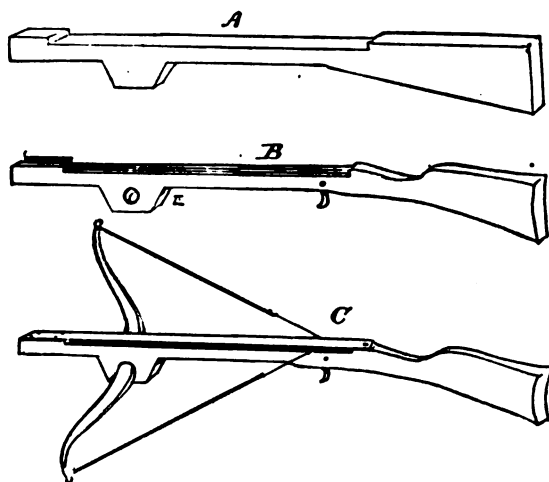
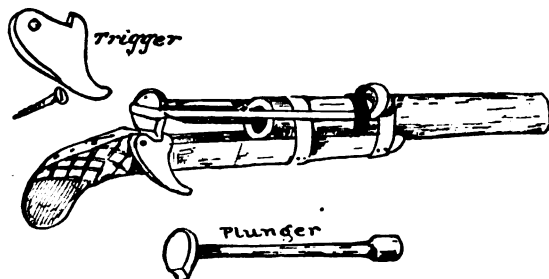

FIG. 129.—The Elastic Cross-Bow.
FIG. 134.—Plunger Pistol.
Select a piece of thick pine or cedar plank and saw out a piece of the form shown by A, Fig. 129. Trim it down with a jack-knife until it becomes more finished and gun-like in appearance. With a gouge, such as may be borrowed at any carpenter or cabinet-maker's shop, cut a half round groove from
the butt to the muzzle of the barrel. The groove must be perfectly straight and true (B, Fig. 129). Bore a hole in the piece (E), for the bow to fit in. The bow in this case should be made perfectly stiff, so as not to bend in the least when the line is drawn and the gun set. The bow may be bent into the proper form by steeping it in boiling water until the wood becomes pliable, and binding it firmly into the required position. After it
versed position, as shown by the diagram C, Fig. 129. It might be an improvement to set the bow back toward the stock an inch or two further than the one in the illustration. For a bow-line use two pieces of strong elastic, with a string for a centre piece. The centre cord prevents the bow-line from wearing out as soon as it would if it were all elastic (Fig. 129, C). Make the trigger in the manner described for the plunger pistol (Fig. 134, page 204), but instead of fastening it upon one side with a screw, set it in a slot cut for the purpose in the middle of the barrel near the stock, and let it move freely upon a pivot.
Cut a thin, smooth piece of pine just long and wide enough to cover the gun-barrel from stock to muzzle, and fasten it on with a couple of small brads at the muzzle and a screw at the stock (Fig. 129, C).
much neater gun can be made. Fig. 134 shows a pistol made with an elder barrel and a stock of pine. A plunger, similar in many respects to the one used in the squirt-gun, is made with an edge to catch in the trigger. An elastic band is bound to the barrel with string, and the loop fastened to the butt end of the plunger. When the latter is drawn back to the trigger it stretches the elastic. By pulling the trigger toward you it loosens the plunger, which flies back with a snap, sending the arrow out with considerable force. The barrel of the pistol may be fastened to the stock by two strips of tin or leather. The diagram shows the form of the trigger, which should be made so as to move readily backward or forward upon the screw that fastens it to the stock.